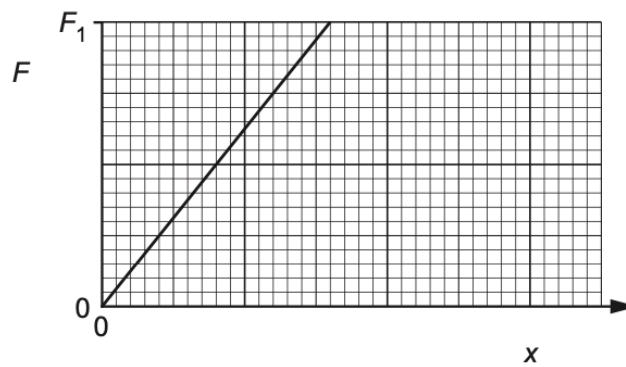

Fig. 4.1
- (b) (i) A school experiment is performed on a metal wire to determine the Young modulus of the metal. A force is applied to one end of the wire which is fixed at the other end. The variation of the force  $F$  with extension  $x$  of the wire is shown in Fig. 4.1.
The gradient of the graph line in Fig. 4.1 is  $G$ . The wire has initial length  $L$  and cross-sectional area  $A$ .
On Fig. 4.1, draw the graph line representing the new wire for the force increasing from  $F = 0$  to  $F = F_1$ . [2]